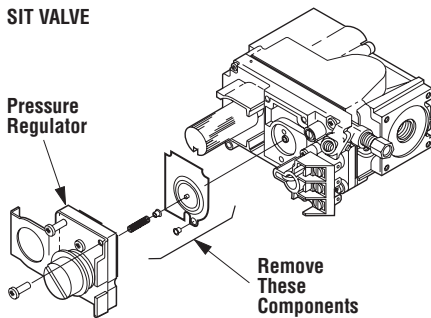

Figure 1
Step 4. SIT Systems - Refer to **Figure 1**. Using a Torx T20, or a flat screwdriver, remove and discard the three pressure regulator mounting screws. Remove the pressure regulator, spring, poppet, diaphragm and bushing.
Step 9. SIT Systems - Refer to **Figure 1**. Using a Torx T20, or a flat screwdriver, remove and discard the three pressure regulator mounting screws. Remove the pressure regulator, spring, poppet, diaphragm and bushing.